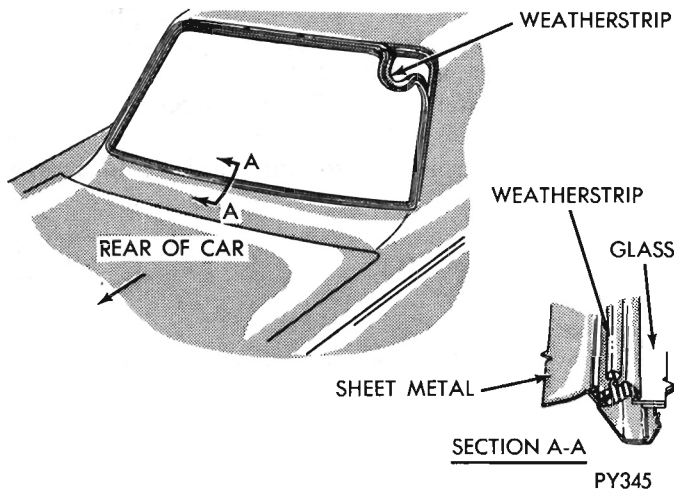

Fig. 1 Weatherstrip
(2) Using a fiber wedge, unlock weatherstrip by prying weatherstrip apart and with a slight twist move wedge around weatherstrip.
(3) With an assistant supporting glass on outside, from inside car, push against glass at one of the upper corners and remove glass from weatherstrip.
(4) Place glass on a cloth covered bench.
(5) Remove weatherstrip from fence (Fig. 1)